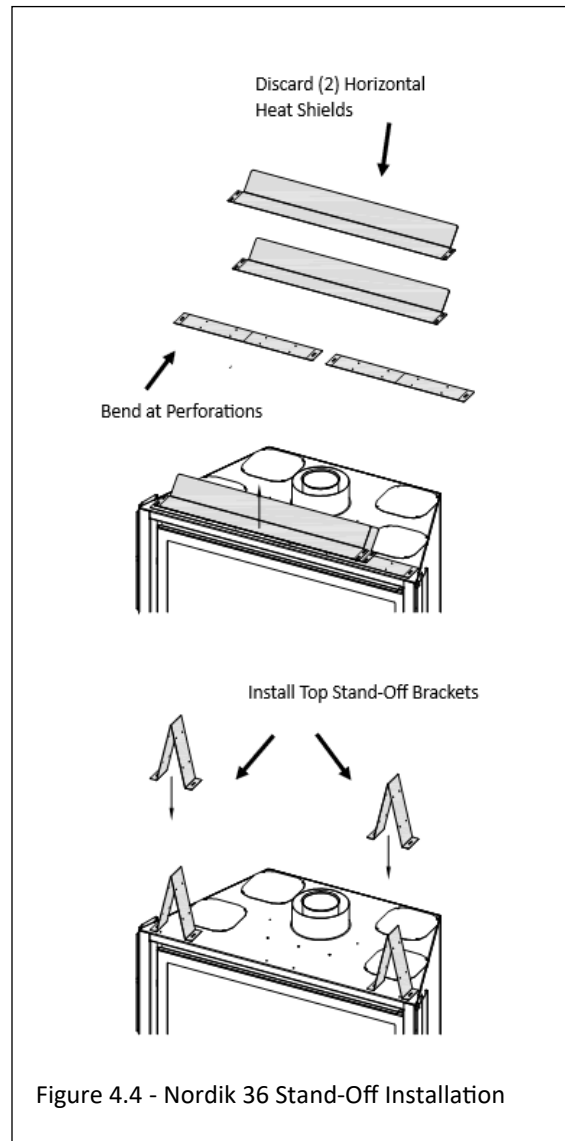

Figure 4.4 - Nordik 36 Stand-Off Installation
4. Reinstall the top outer shell assembly on the appliance with the previously removed (11) sheet metal screws.
7. Install stand-off assembly on top of the appliance. See Figure 4.4. Remove and save (4) screws securing stand-off heat shields and stand-off brackets on top of the fireplace. Form each top stand-off bracket by bending at perforations, as shown. Align the holes in the formed top stand-offs with the holes in the fireplace top. Secure with the (4) screws previously removed along with (4) screws located on top of the fireplace.
8. Discard the (2) horizontal heat shields.